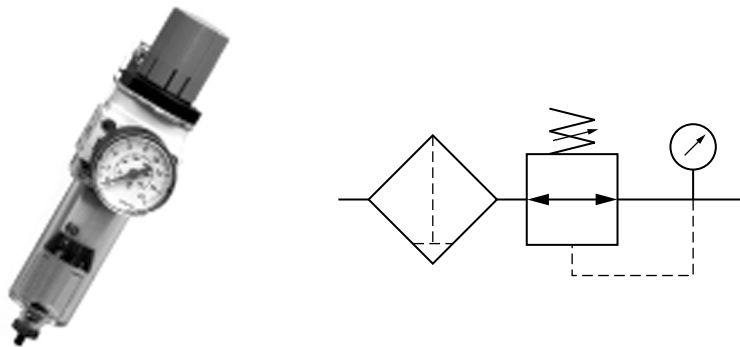

Fig. 3
- (b) Fig. 3 shows a combined filter/drain valve, regulator and gauge, with its symbol.